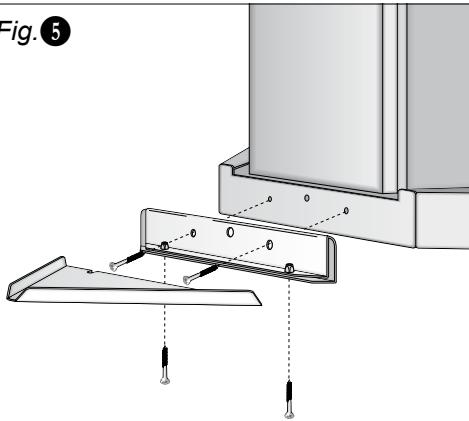

Fig. 6
- Securely hang the cooker hood body to the wall using the 2 screws supplied M5 x 40 (**Fig. 6**), always considering that the distance between the cook top area and the cooker hood should not be less than 65 cm.
- Fix the cooker hood to the wall on both sides using the 4 screws (A/B). (**Fig.6**).